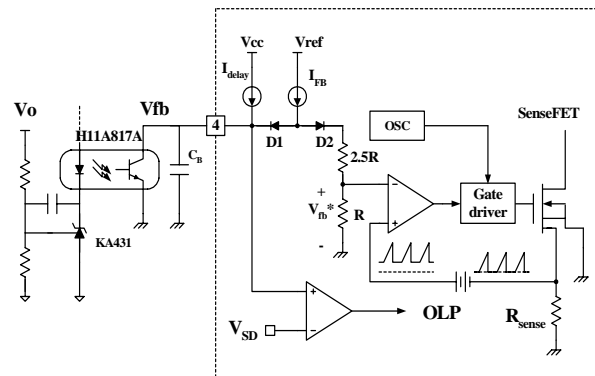

Figure 5. Pulse width modulation (PWM) circuit
2. Feedback Control : FSDM0565RB employs current mode control, as shown in Figure 5. An opto-coupler (such as the H11A817A) and shunt regulator (such as the KA431) are typically used to implement the feedback network. Comparing the feedback voltage with the voltage across the Rsense resistor plus an offset voltage makes it possible to control the switching duty cycle. When the reference pin voltage of 2.5V, the H11A817A LED current increases, thus pulling down the feedback voltage and reducing the duty cycle. This event typically happens when the input voltage is increased or the output load is decreased.
2.1 Pulse-by-pulse current limit: Because current mode control is employed, the peak current through the Sense FET is limited by the inverting input of PWM comparator (V_{fb}^*) as shown in Figure 5. Assuming that the 0.9mA current source flows only through the internal resistor ($2.5R + R = 2.8\text{ k}\Omega$), the cathode voltage of diode D2 is about 2.5V. Since D1 is blocked when the feedback voltage (V_{fb}) exceeds 2.5V, the maximum voltage of the cathode of D2 is clamped at this voltage, thus clamping V_{fb}^* . Therefore, the peak value of the current through the Sense FET is limited.